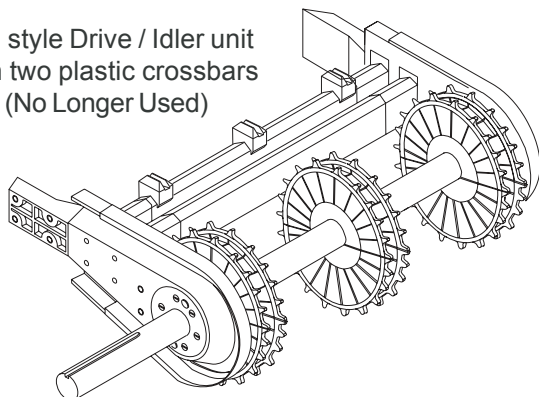

**Figure 69**
*Figure 69* illustrates the two types of crossbars that the bed sections of a conveyor could have. *The plastic style crossbars were installed in earlier conveyor models, and are no longer used.*